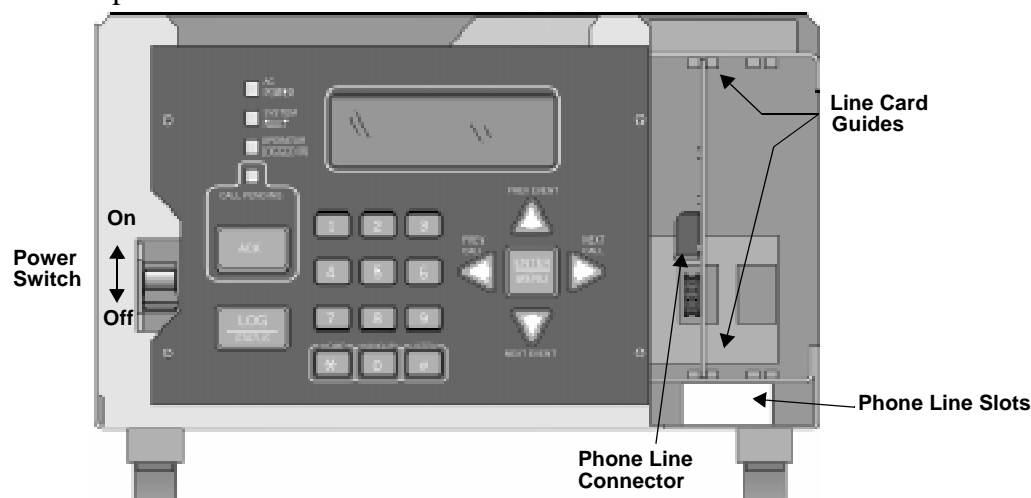

Figure 3-5 Line Card Locations
2. Turn off the 9500's power switch (see Figure 3-5 for power switch location).
3. When the cover is removed, you will see that there are 2 slots for line cards. The receiver recognizes each slot by number 1 and 2 (slot one is closest to the keypad and display). It is not necessary to put line cards in numbered order because the receiver continually polls each slot to see if existing line cards are functioning and if it is still in its slot. The receiver also looks to see if a new line card has been added. Figure 3-5 shows where each line card should be placed.
5. Carefully slide the card into its guides (both top and bottom) until it fits into its connector at the back of the receiver. Gently push the card as far into the connector as you can. The card is now in place. See Figure 3-5.
4. Unplug the telephone line. (See Figure 3-5 and Figure 3-6.)
2. From the back side of the receiver insert the telephone line through the corresponding slot for the desired line card. (See Figure 3-5 and Figure 3-6 for phone line slot locations.)
4. Plug the RJ-11 phone connector into the connector on the 9810 line card. (See Figure 3-5 and Figure 3-6.)